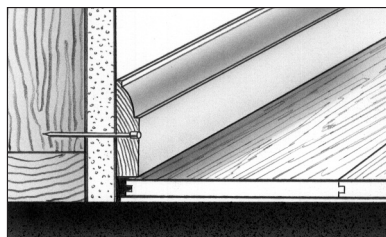

Fig. 31
1. Nail the moulding to the wall, not the floor (Fig. 31).